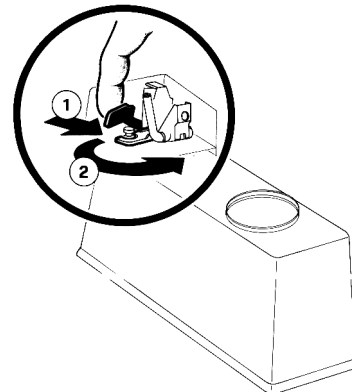

figure 5
- 2 - Take the bowl away from the machine and turn it upside down. Pull (1) the tab release lever and at the same time, turn (2) to the left (counterclockwise) the faucet body till it gets free, together with faucet cover, from the bowl (see figure 5).
Pull (1) the tab release lever and at the same time, turn to the left (counterclockwise) the faucet body till it gets free, together with faucet cover, from the bowl (see figure 5).